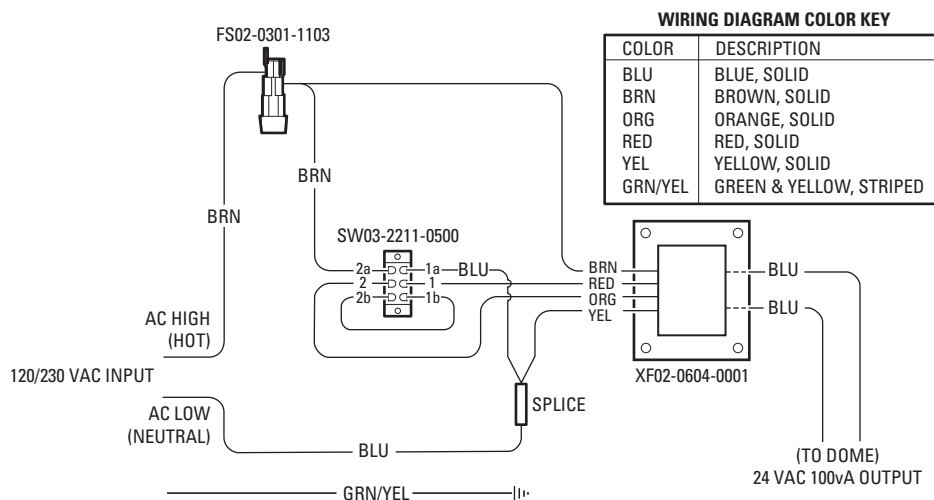

Figure 2. SWM-CA24 Wiring Diagram
- c. Connect the AC high (brown wire), neutral (blue wire), and ground (green/yellow) wires from the transformer module to the user-supplied power source (refer to Figure 2).